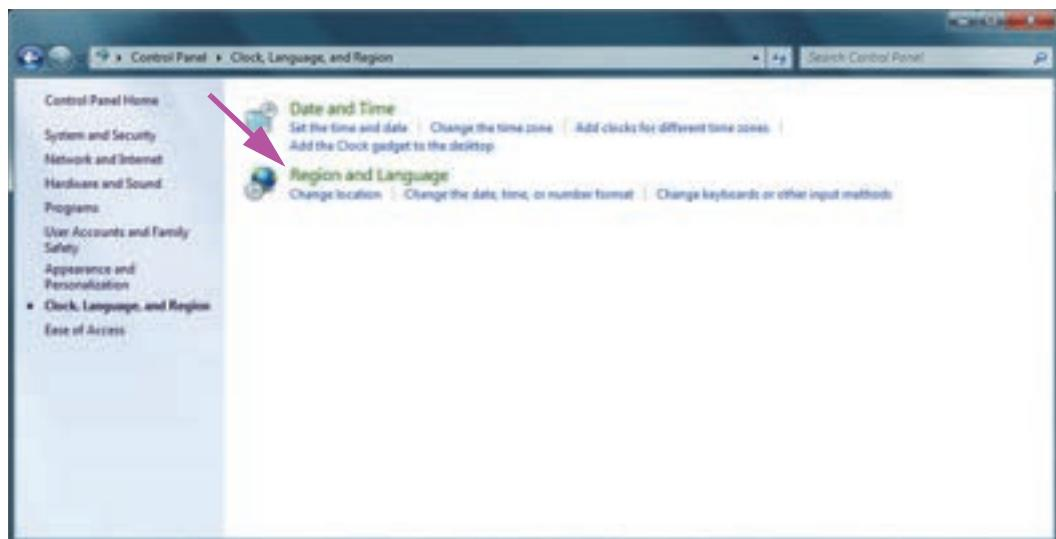

Figure C-14. Clock, Language, and Region Window
4. The Clock, Language, and Region window appears (see Figure C-14). Click **Region and Language**.